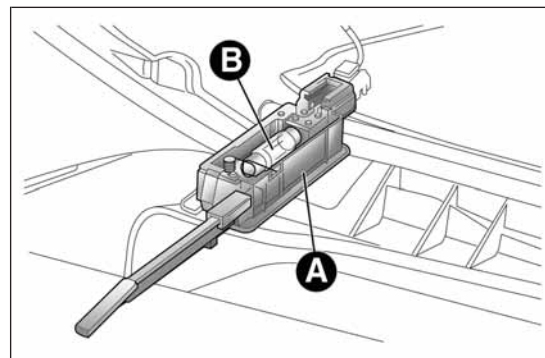

fig. 147
- ❑ open the glove compartment and extract the light A fig. 147;